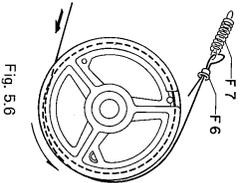

Fig. 5.6
- (3) Referring to Fig. 5.6, put the dial thread end (free end) on F6 (Thread Guide) and fix it with F7 (Pulley Spring).